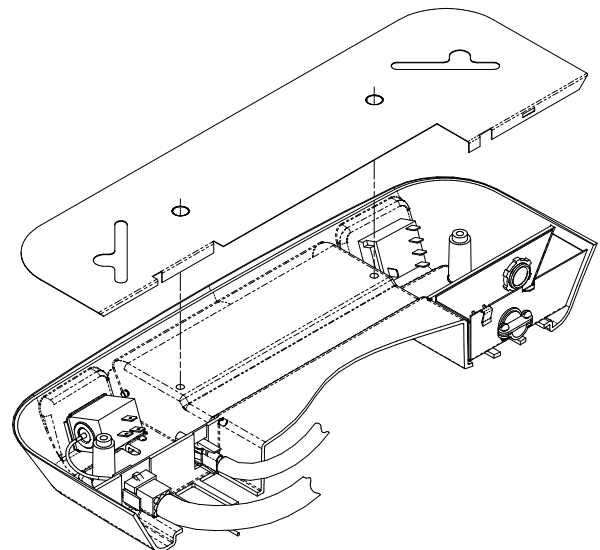

FIGURE 7
- E. Plug the roof top air conditioner electrical conduit into the 9 position receptacle located in the thermostat side of the ceiling assembly. If installing an Electric Heating Element, plug the heater cord into the 2 position receptacle (See Figure 7).
- H. Place the metal control box shield over the thermostat, switch and field wiring boxes. Make certain that all wires are pushed into the control boxes or laying in the wireway between the thermostat and switch boxes and will not be pinched by the control box shield. Control box shield is properly installed when the two holes in the shield are aligned with the two screw holes in the ceiling assembly chute (See Figure 7).
- J. The ceiling assembly shroud is curved to contour to a crowned ceiling. If installation is to a flat ceiling and gaps are present on the sides of the shroud, insert the four optional 3/4 inch screws (provided) through the mounting posts and secure them to the mounting frame above (See Figure 7, 8 & 9 for screw locations).